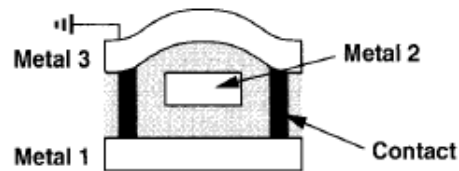

Figure 18.41 Shielding a sensitive line (metal 2) by lower and upper ground planes.
- Fig. 18.41: The sensitive line is surrounded by a grounded shield consisting of a higher and lower metal layer and hence isolated from electric fields.